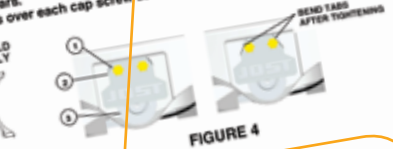

FIGURE 4
7. Install the pivot pins (figure 4 item 3) aligning the flange with the threaded holes in the topplate casting.
8. Align a locking tab (item 2) with each pivot pin and install the hex head cap screws (item 1) thru the locking tabs, the pivot pin flange and into the topplate casting ears.
9. Bend the locking tabs over each cap screw as shown in figure 4.